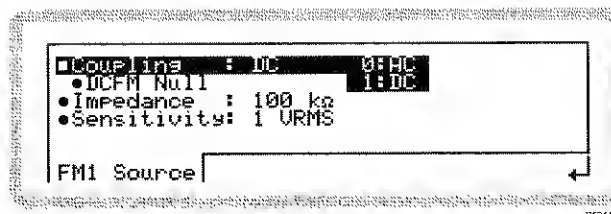

Fig. 3-76 External source
- 2 Press **(SIG GEN)** to show the main screen. Touch the appropriate modulation soft box, followed by **[Ext ...]**, to select the function. Press **[J/...]** to view the external source menu (Fig. 3-76).